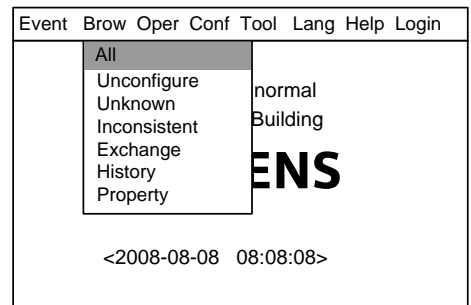
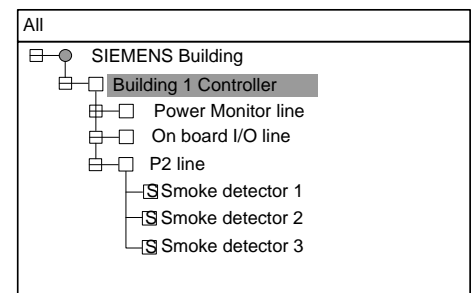

Fig.16-2
Fig.16-3
- Press "→" to select "Brow" submenu (Fig. 16-2). Select "All" and then press "OK". Now the tree diagram will be displayed in the window (Fig.16-3).